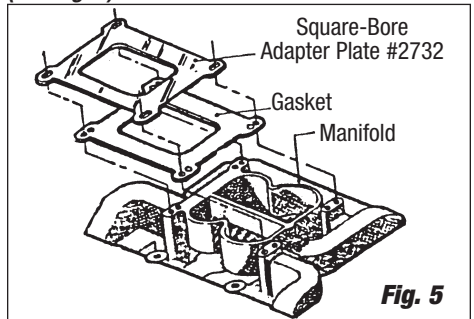

Fig. 5
4. You must use an Edelbrock Adapter #2732 when installing a Performer or Thunder Series AVS/ AVS2 Carburetors on Edelbrock manifolds #2131, #2146, #2151, #2156, #2161, #2171, #2176, #2186, #2191, #3706, #3761, #3731, and #5486. Without this adapter, a vacuum leak will occur, affecting the performance of the carburetor. In those applications, install the adapter as shown (See Fig. 5).